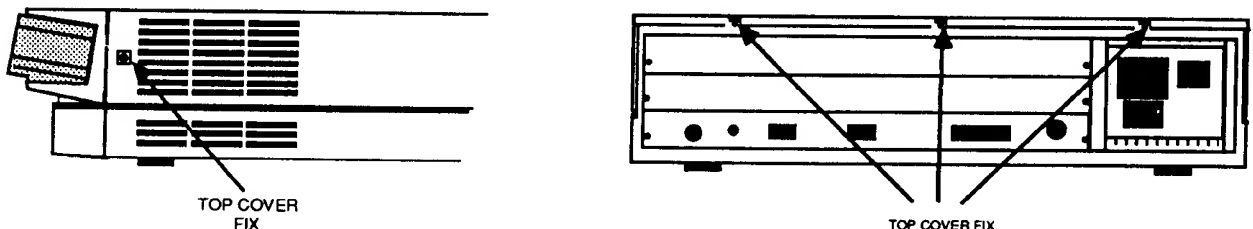

Figure 1: Removing the screws holding the top case.
- 3 Locate the screws holding the cover in place (see Figure 1). Remove the three screws at the top rear of the unit, then remove the single screw located on each side of the unit, towards the front.
- 2 Replace the three screws at the rear of the unit and tighten them up. See Figure 1.